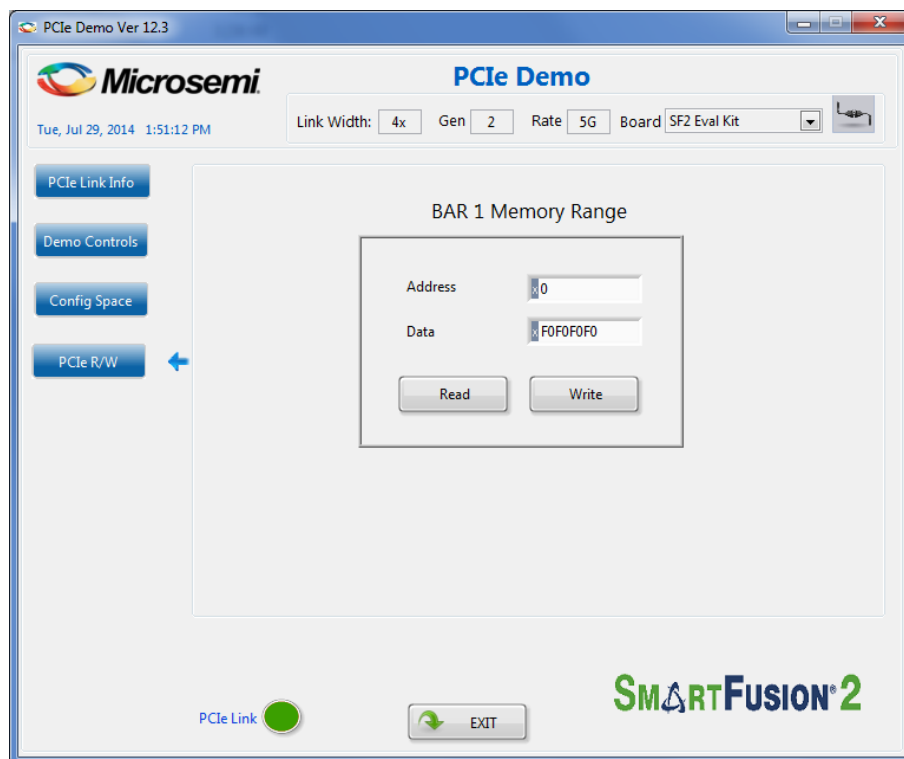

Figure 66 Perform Read and Write to LSRAM Using PCIe
14. Click **PCie R/W** to perform read and writes to LSRAM memory through **BAR1** space. Figure 66 shows the **PCie R/W** window.